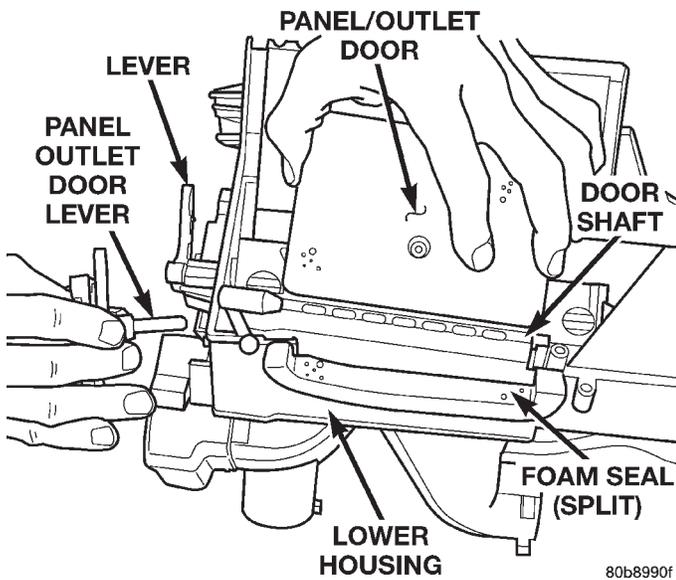

Fig. 64 Panel Outlet Door
(11) Pinch the retention tabs holding the panel outlet door pivot shaft to the case. The 3 plastic tabs, located on the inside of the case, are part of the shaft retainer (Fig. 64).
(12) Using a trim stick or another suitable wide flat-bladed tool, gently pry the panel outlet door pivot shaft retainer from the pivot shaft.
(13) Remove the panel outlet door from the heater-A/C housing.